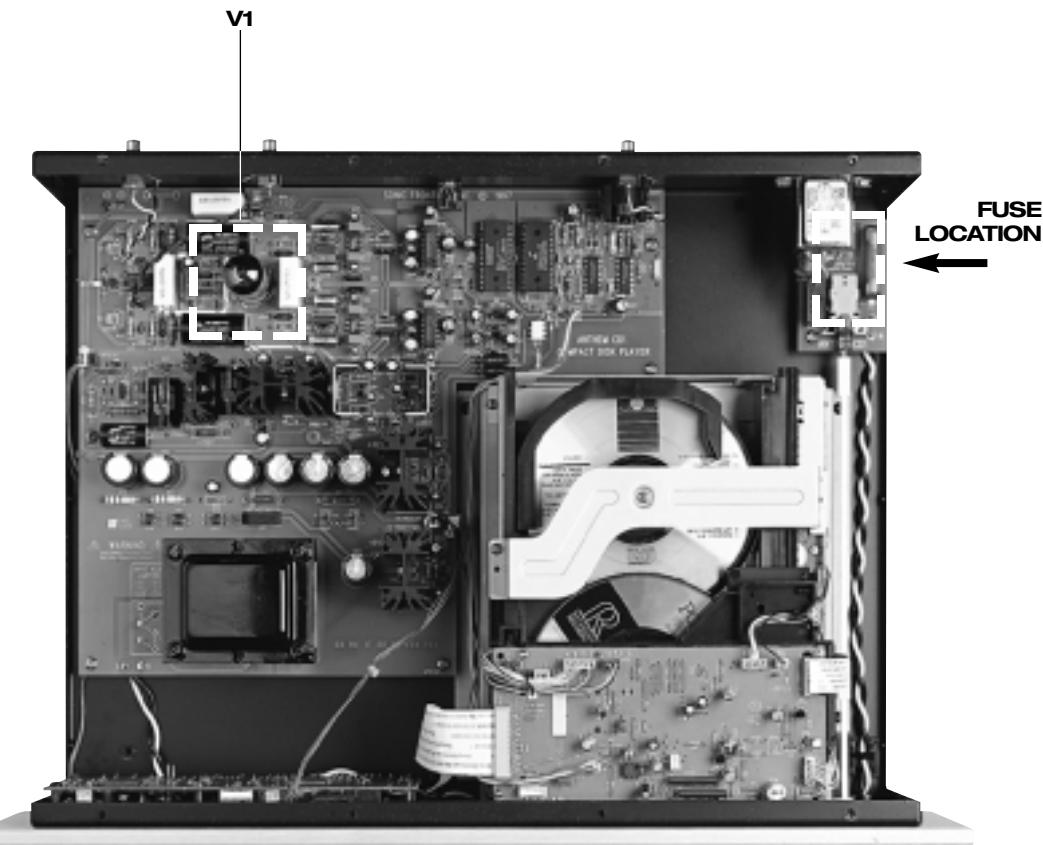

Figure 2 - Tube and Fuse Location
3. Noting the location of the tube socket in the top view photo (Figure 2) or directly on the PC Board. Once located, take the tube and inspect the pins, noting the larger space between two of the pins (see Figure 1). This space will match with the socket. Insert the tube into the tube socket, making sure all pins and pin holes are aligned. Do not force the tube into the socket. "Rock" the tube gently while pushing slowly until it is firmly seated.
1. Check that the AC Detachable Power Cord is plugged into the CD 1 Detachable Power Cord Socket (H) and is connected to a live source of AC power. For instance, if using a power bar, check that the bar is turned on.
- A "fast-blo" fuse, with a rating of 1 Amp/250 V (0.5 Amp/250 V for European and Asian versions), is installed on the circuit board under the soft plastic cover (see figure 2).
- The AC power fuse is intact and has not blown. If the fuse has blown, the thin metal conductor will have melted and the glass may appear "smoked". If the fuse has blown, replace with a fuse of the same rating (1 Amp/250V fast-blo for 100 to 120 volt countries and .5 Amp/250V fast-blo for 220 to 240 volt countries). (See Figure 2.)